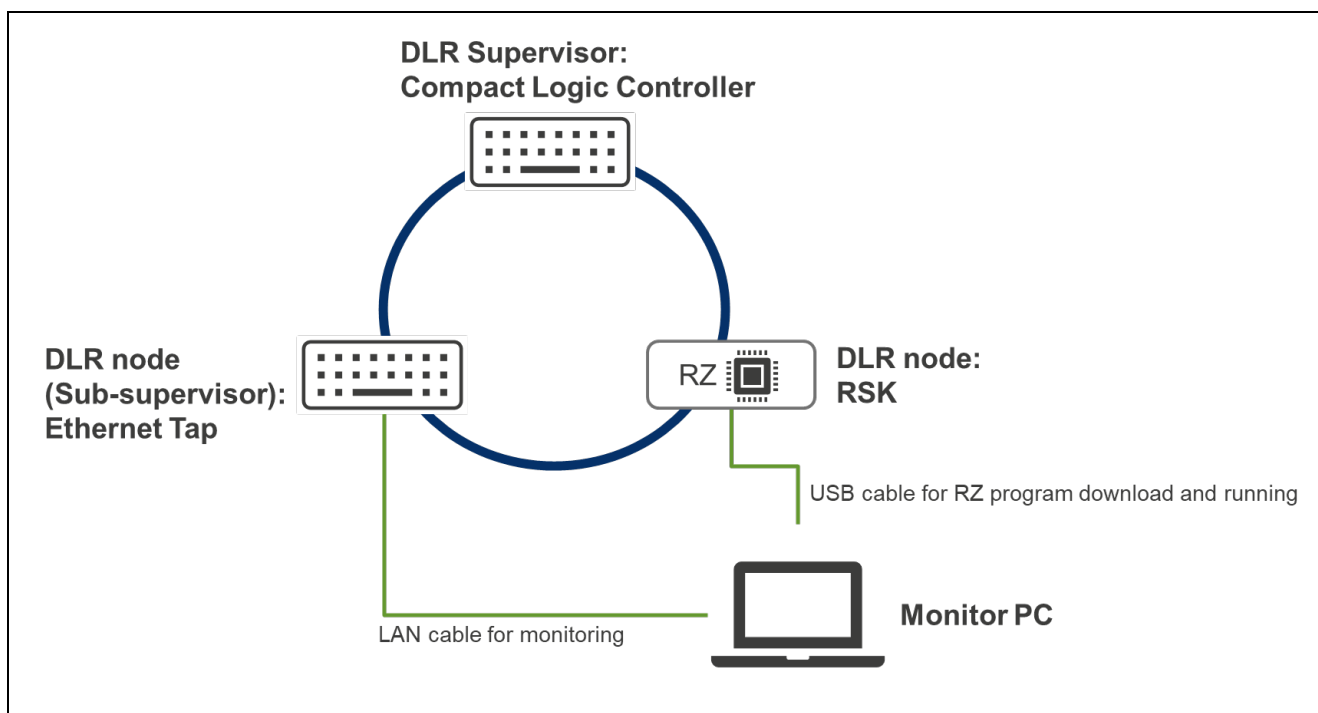

Figure 7-1 Topology for check
2. Establish the Figure 7-1 topology and power up.